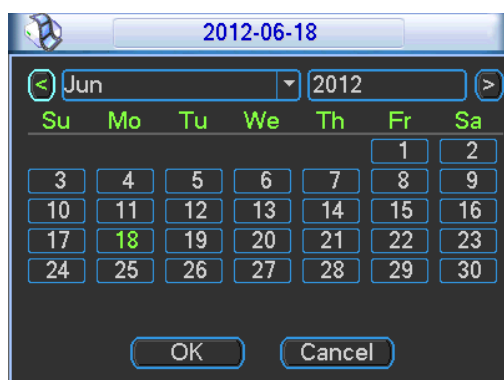

Figure 4-18
- Record types: There are four types: regular, motion detection (MD), Alarm, MD & alarm.
- Holiday setting: Click it you can see an interface shown as in Figure 4-18. Here you can set holiday date. Check the box, it means current channel shall record as your holiday setup. Please go to the Period interface to set the holiday date record setup. Please note you need to go to Chapter 5.3.1 to enable Holiday function first.